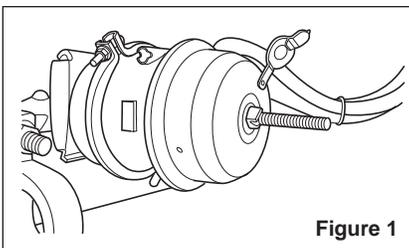

Figure 1
2. If the axle is equipped with spring brake chambers, carefully compress and lock the springs so that they cannot actuate (see figure 1).